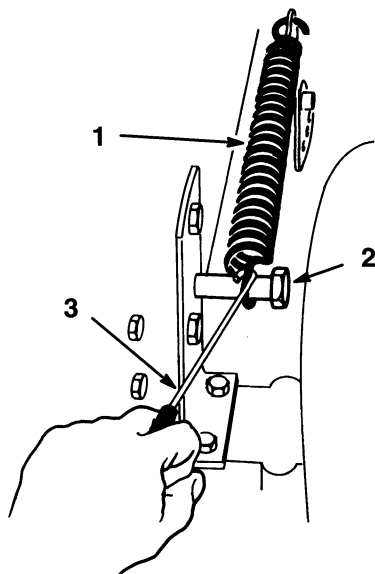

Figure 6
5. Remove the lift assist spring between the mower right side lift bracket and the retaining bolt (Fig. 6) Use the spring tool provided with the machine.